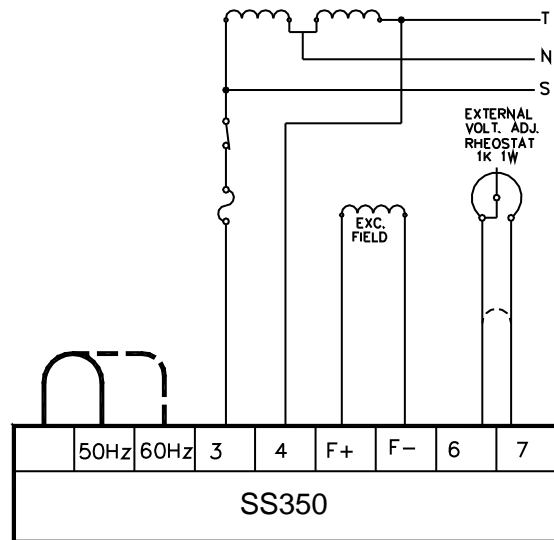

Figure 5 1Phase 220VAC Diagram
- See Figure 5~6 for typical connection diagram
See Figure 5~6.
When using a remote voltage adjust rheostat, remove the jumper wire across terminals 6 and 7 and install a 2000 ohm 1/2 watt (minimum) rheostat. This will give  $\pm 10\%$  voltage variation from the nominal. (For  $\pm 5\%$  voltage variation use a 1000 ohm 1/2 watt rheostat). See Figure 5~6.